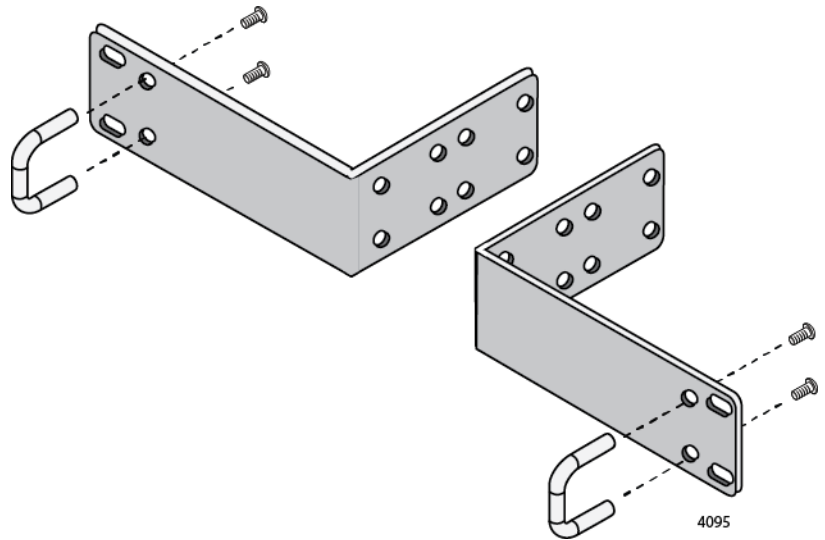

Figure 53. Attaching the Handles to the RKMT-J14 Brackets
1. Attach the two handles to the RKMT-J14 Brackets using the four M3x6mm screws included with the switch. Refer to Figure 53 on page 113.